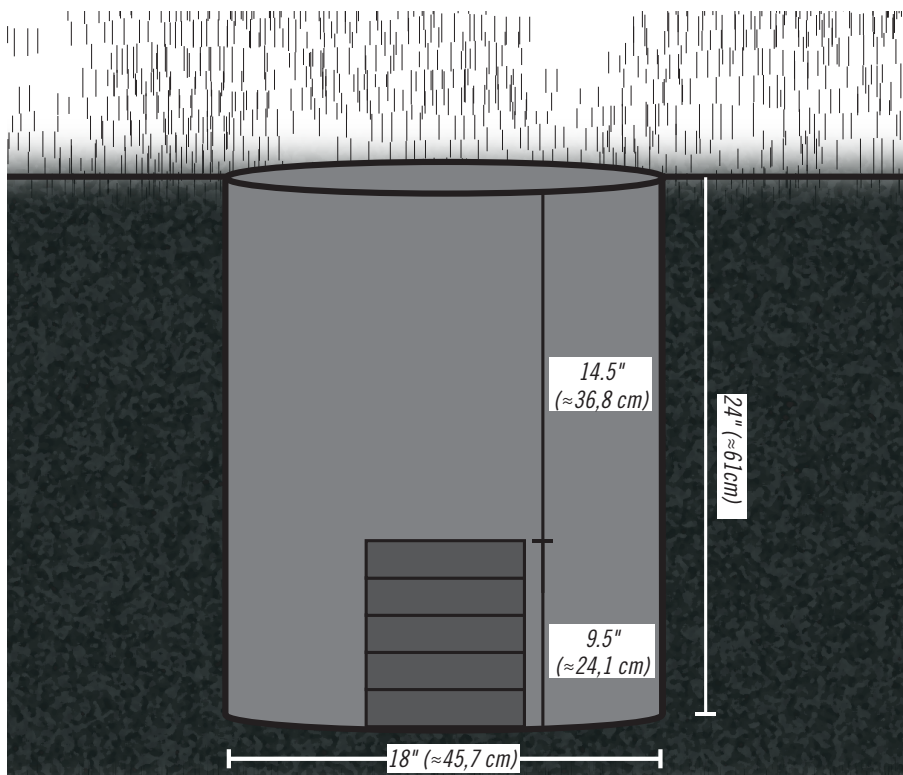
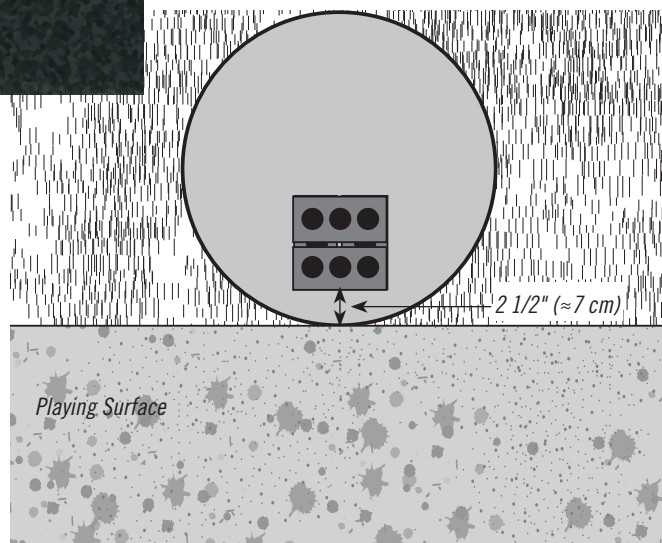

Fig. 1
Fig. 2
- Stack bricks or patio blocks in the hole so the top of the stack measures 9.5" ($\approx 24,1$ cm) from the bottom of the hole (Fig. 1). The edge of the bricks should be about 2 1/2" (≈ 7 cm) from the playing surface (Fig. 2).